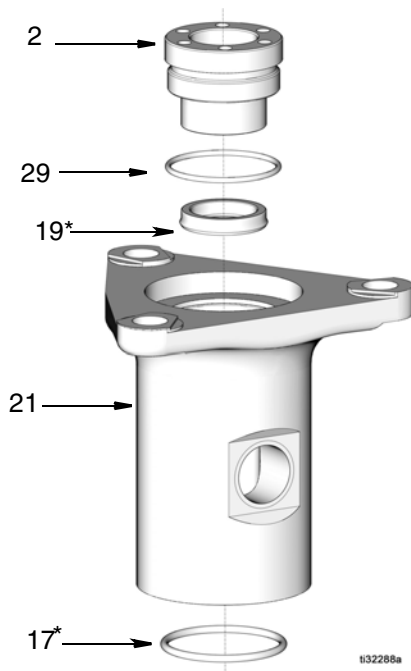

FIG. 9
1. Apply a thin layer of grease to o-ring (17\*) and throat seal (19\*) and install parts in pump base (21) (FIG. 9).
2. Apply a thin layer of grease to o-ring (29\*) and install o-ring to packing gland (2). Tighten down packing gland (2) to pump base (FIG. 9).